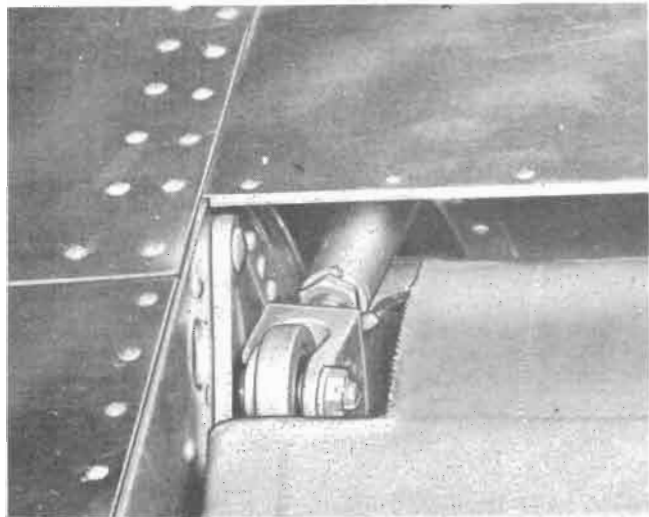

Figure 66 — Aileron Control Rod and Horn
(5) **AILERONS.**—Disconnect the adjustable end of the aileron control rod from the aileron control horn. (See figure 66.) Then disconnect the aileron from the outboard, inboard and center hinge fittings respectively; remove the aileron.